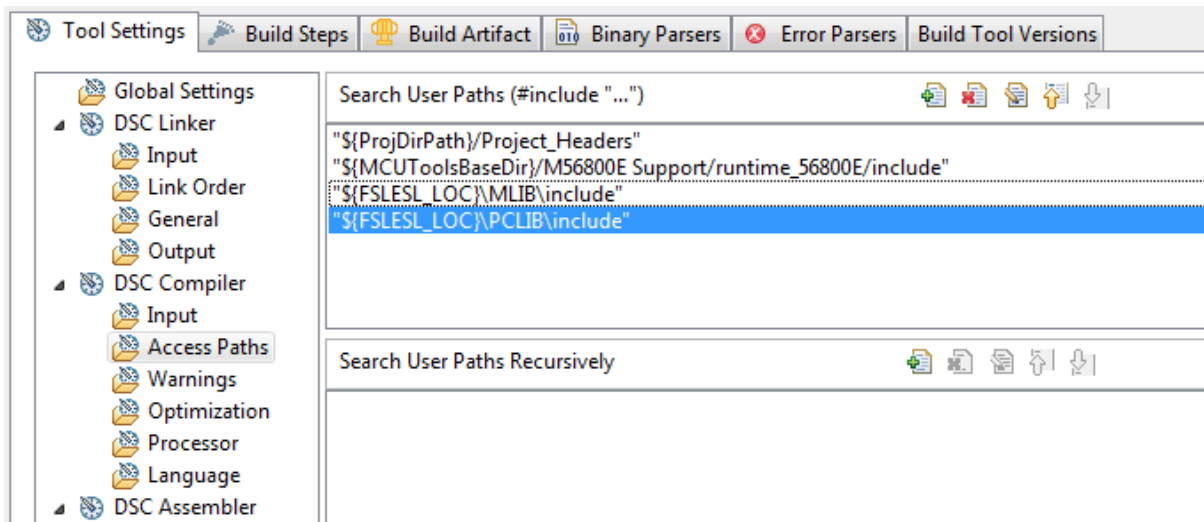

**Figure 1-11. Linker setting**
3. In the right-hand tree, expand the DSC Linker node, and click Input. See Figure 1-11.
8. Now, you will see the added in the box. See Figure 1-11.